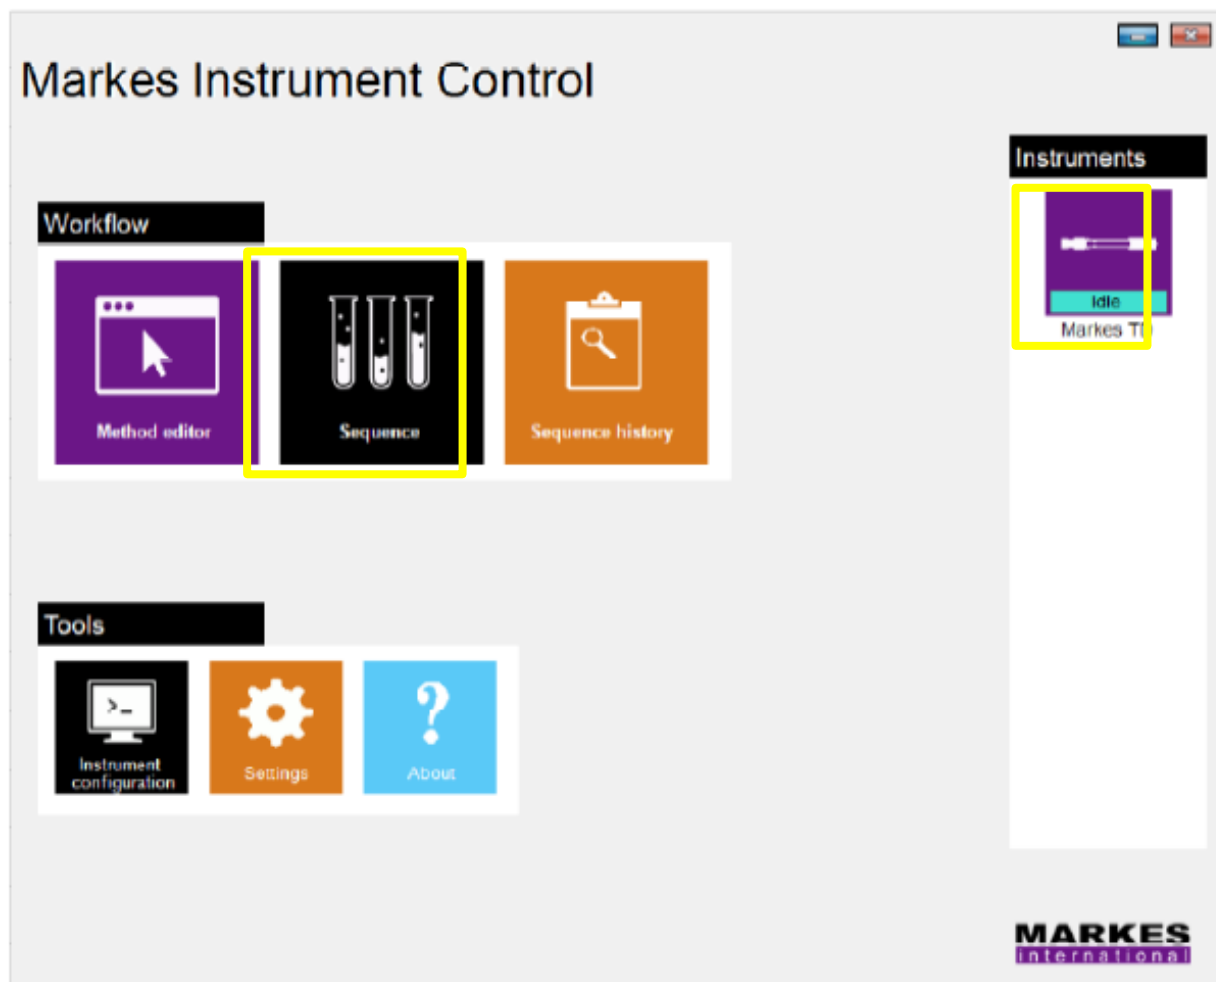

Figure 15. Markes Instrument Control (MIC) homepage.
4.5.1 Launch the MIC software by clicking on the desktop icon or selecting Start > Programs > Markes International > TD. The MIC homepage (Figure 15) will appear. Wait until the instrument status is "Idle" and then tap on "Sequence".